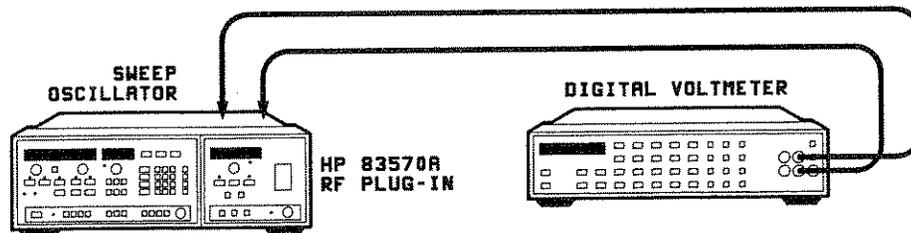

Figure 5-6. YO Driver Adjustments Test Setup
NOTE: YO Driver Board adjustments should be avoided if possible. Set up equipment as shown in Figure 5-6 and perform step 10 in Adjustment 5-4 (Frequency Accuracy) to check frequency accuracy and sweep linearity across the band. If frequencies are within ± 30 MHz tolerance, do not make these YO Driver Board adjustments.
1. Connect the equipment as shown in Figure 5-6. Allow the equipment to warm-up for 30 minutes. Turn off line power. Remove the A7 Bias assembly from the plug-in. Return power to the instrument.